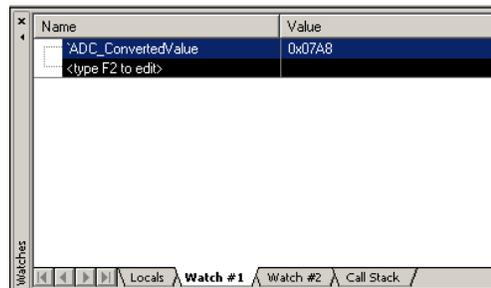

Figure 6 Watch window
2. If the Watch window shown in Figure 6 is not open in the bottom area of your screen, open it with View/Watch & Call Stack Window. Click on the Watch #1 tab.